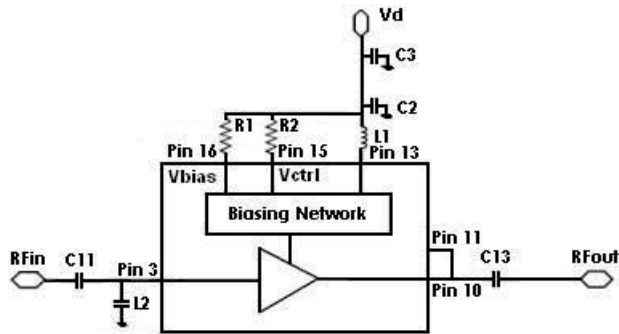

Figure 46. Application Circuit Diagram
1.  $V_{bias}$  and  $V_{ctrl}$  can be externally controlled by change external biasing resistors  $R1 = R_{bias}$  and  $R2 = R_{ctrl}$  (as shown in Fig. 46).
1. Vbias and Vctrl can be externally controlled by change external biasing resistors R1 = Rbias and R2 = Rctrl (as shown in Fig. 46).
- $V_{bias}$  and  $V_{ctrl}$  can be externally controlled by change external biasing resistors  $R_1 = R_{bias}$  and  $R_2 = R_{ctrl}$  (as shown in Fig. 46).